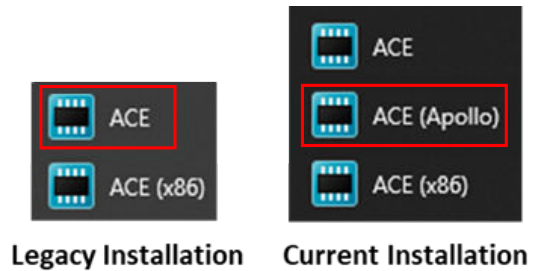

Figure 14. Starting the ACE Software
5. Click **ACE (Apollo)** to start the **ACE Software** when it appears in the Windows Analog Devices **Start** menu. If **ACE (Apollo)** does not appear, click **ACE** (see Figure 14).